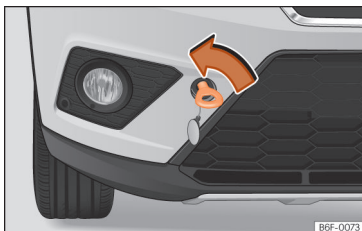

Fig. 98 Right side of the front bumper: towline anchorage screwed in.
- Bolt the anchorage to its limit to the left, in the direction of the arrow »» **Fig. 98.**